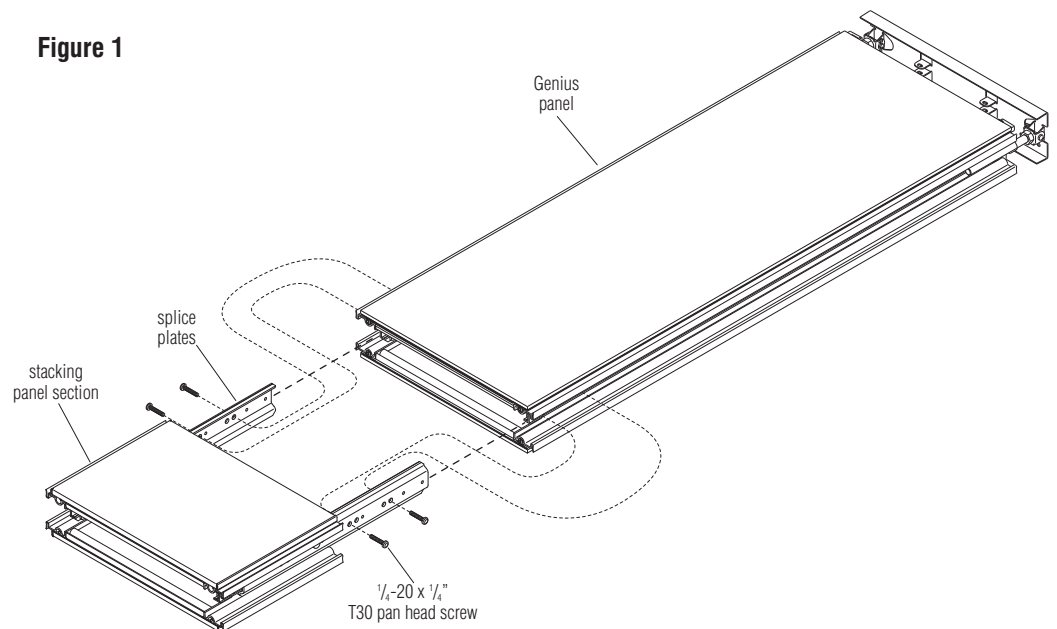

Figure 2
as illustrated. Repeat for all panel frames in the run to receive stacking sections (Figure 2).
4. With the panel and stacking section fully assembled and laying on the floor, use a $\frac{3}{8}$ " wrench or pliers and readjust the level and height of the panel by turning the bolts of the bottom glides (Figure 2).
5. With the help of two or more people, carefully rotate the panel with stacking panel section up. Tip the unit up vertical, directly under the ceiling rail. With help, hold the panels with stacking sections upright. Level panel assembly up into the ceiling rail by turning all glide stem bolts clockwise (Figure 2 & Detail A).